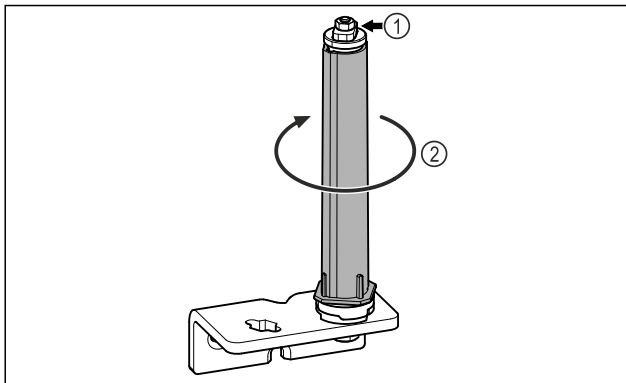

Fig. 23
- ▶ Do not disassemble the door locking system Fig. 23 (1).
- ▶ Turn the locking system Fig. 23 (2) until it clicks.